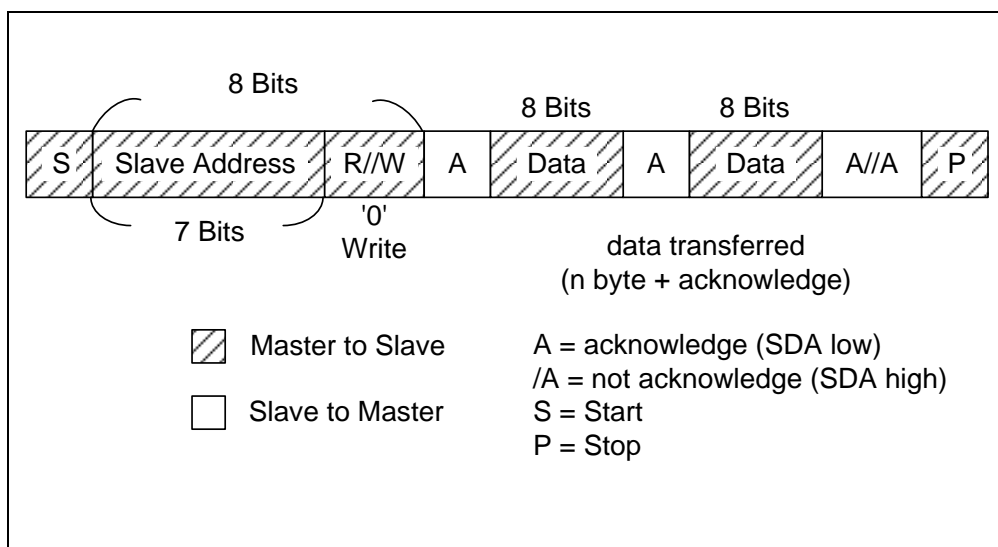
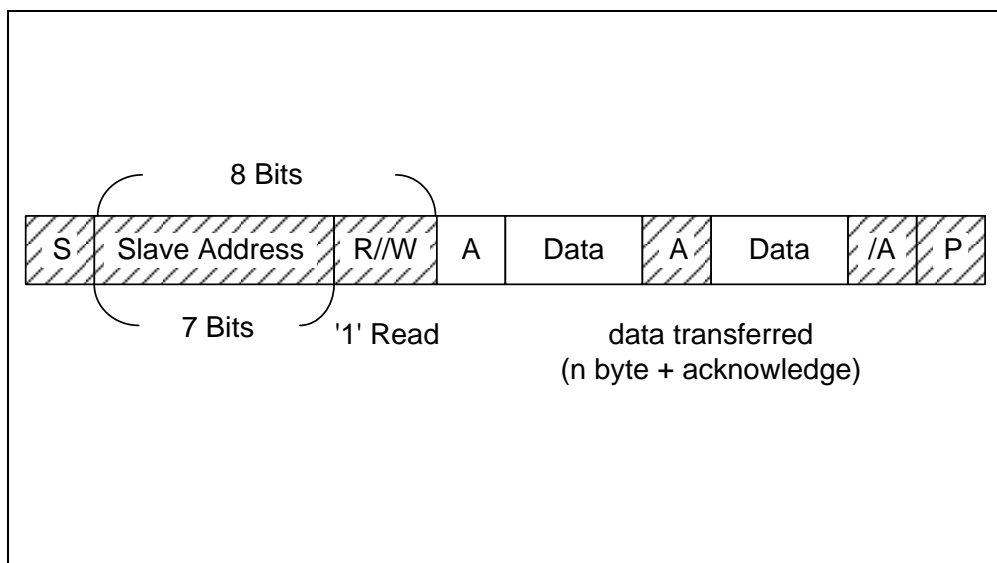

Figure 6-10 7-Bit Slave Address in Master-transmitter Transmits to Slave-receiver
Figure 6-11 7-Bit Slave Address in Master-receiver Reads Slave-transmitter
The Master reads the Slave immediately after the first byte. At the moment of the first acknowledge, the Master-transmitter becomes a Master-receiver and the Slave-receiver becomes a Slave-transmitter. This first acknowledge is still generated by the Slave. The STOP condition is generated by the Master, which has previously sent a not-acknowledge (A). The difference between Master transmitter with Master receiver is only in R/W bit, if the R/W bit is “0”, the Master device would be a transmitter, the other way, the Master device would be a receiver. The Master transmitter is described in “Figure 6-10 (7-Bit Slave Address in Master-transmitter Transmits to Slave-receiver)”, and the Master receiver is described in the “Figure 6-11 (7-Bit Slave Address in Master-receiver Reads Slave-transmitter)”.